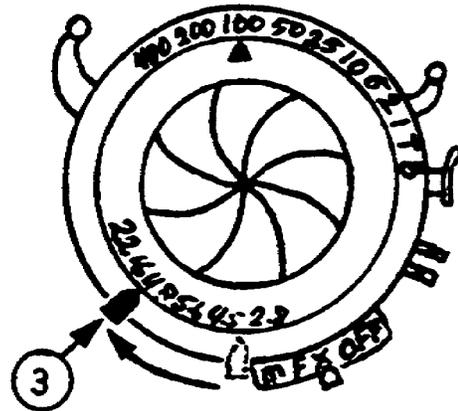

Figure 1-44. Lens Aperture Selector.
(c) Move the lens aperture selector ③, (fig 1-44), until its pointer is opposite the desired f/stop number on the f/stop scale.